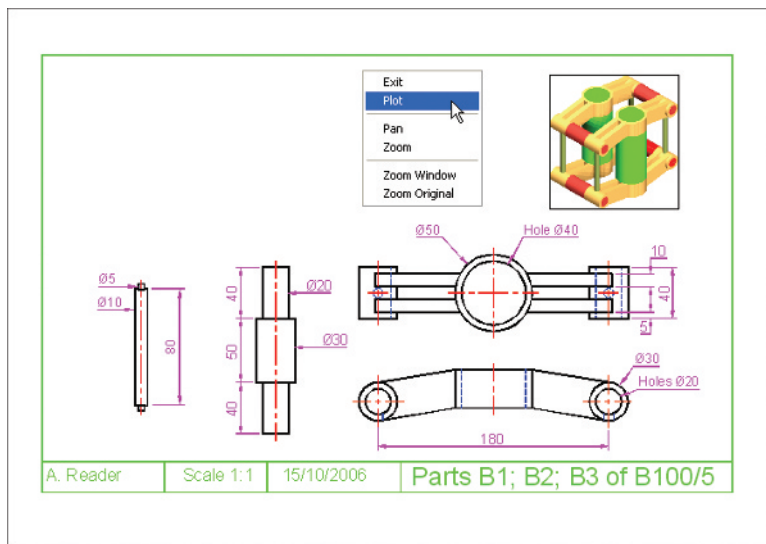

Fig. A.5 The **Plot Preview** window with its *right-click* menu
4. A preview of the drawing to be printed/plotted appears (Fig. A.5). If satisfied with the preview, *right-click* and from the menu which appears *click* **Plot**. If not satisfied *click* **Exit**. The preview disappears and the **Plot** dialog reappears. Make changes as required from an inspection of the preview and carry on in this manner until a plot can be made.